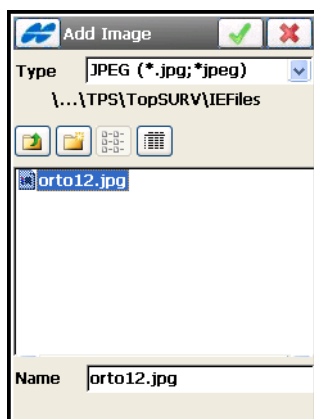

Figure 6-55. Add Image
- **Add** – opens the *Add Image* screen (Figure 6-55 on page 6-46) to browse the controller's directories for the desired file.
The **Add Image** screen (Figure 6-55) selects an image file to add to the *Background Images* list.